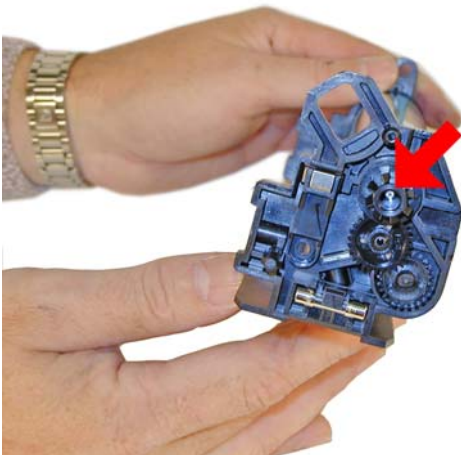

Figure 45
38) Snap in the drum drive gear. See **Figure 45**